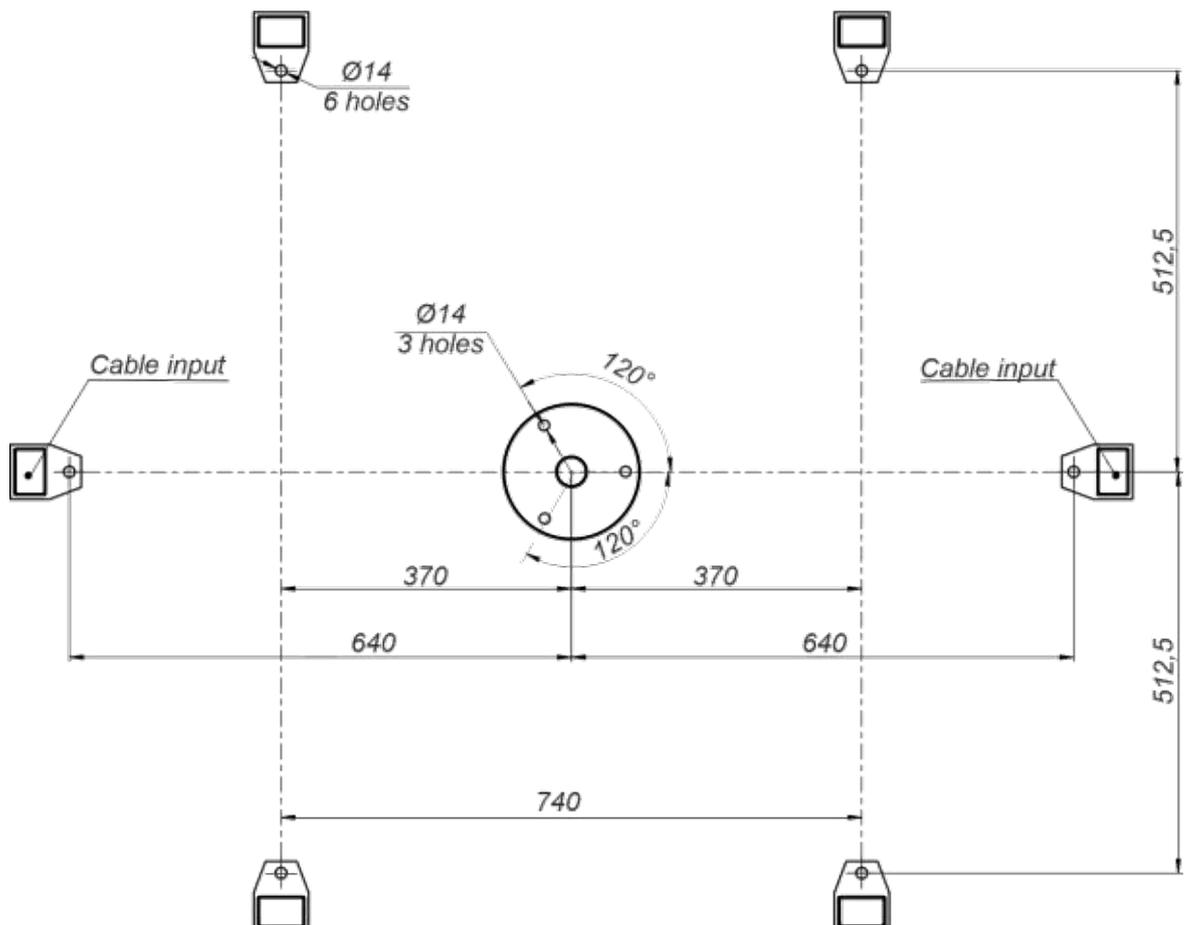

Fig.7 – Installation drawing of Full-Height Turnstile "GlassGo"
- 4) The turnstile fixation holes to be marked on the area surface according to the drawing (See Fig.7 and Annex A).